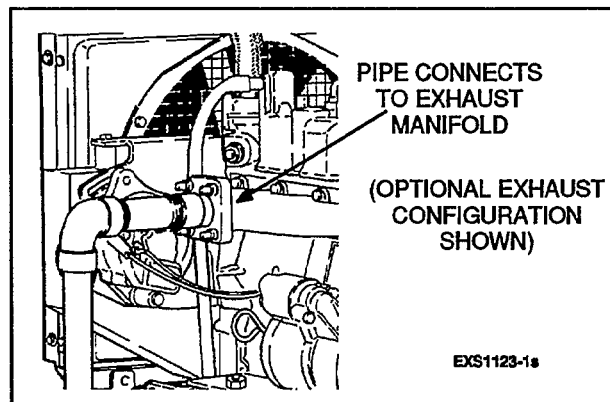

FIGURE 3-13. EXHAUST PIPE CONNECTION
1. Connect the exhaust pipe (1.25-inch I.D., installer-supplied) to the genset as shown in Figure 3-13.